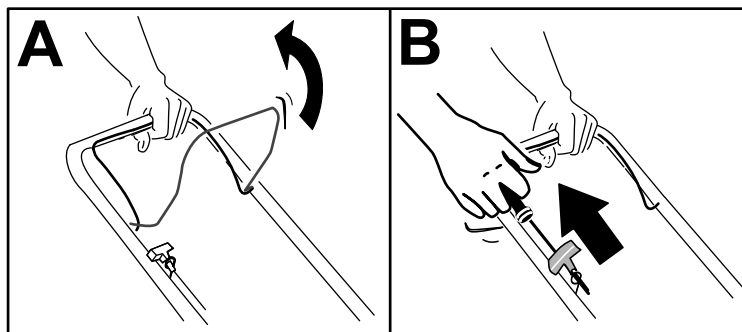

Figure 11
1. Hold the blade-control bar against the handle (A of Figure 11).
2. Pull the recoil-start handle (B of Figure 11).